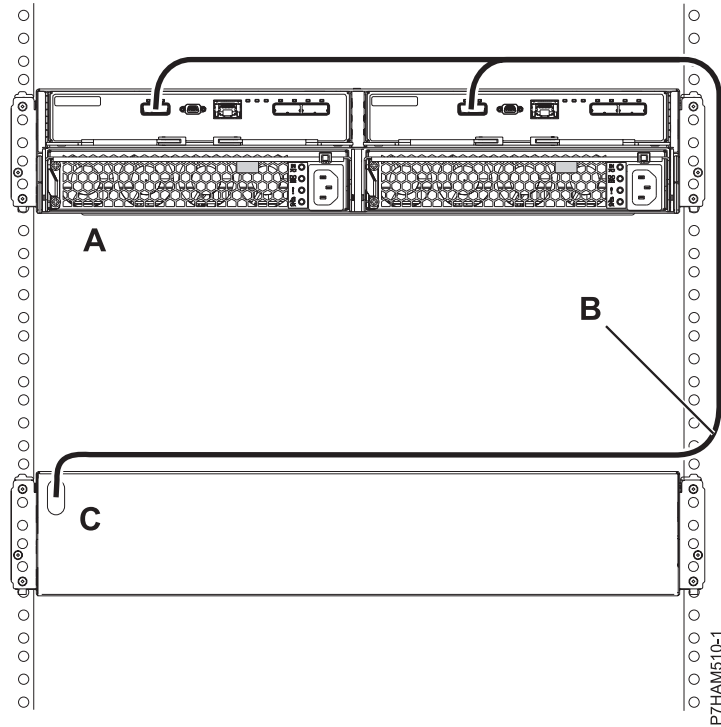

Figure 27. Mode 1 connection of one 58/87 disk drive enclosure by using a YI cable to a system with support for a single SAS drawer
- h. Perform the mode 1 connection of one 58/87 disk drive enclosure **(A)** by using a YI cable **(B)** to a system with support for a single SAS drawer **(C)** as shown in Figure 27 on page 25.